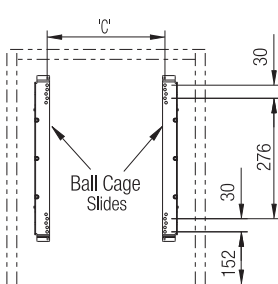

Fig. 2
2. Mark the Ball Cage Slides hole positions on to the top face of bottom panel as shown in Fig. 2